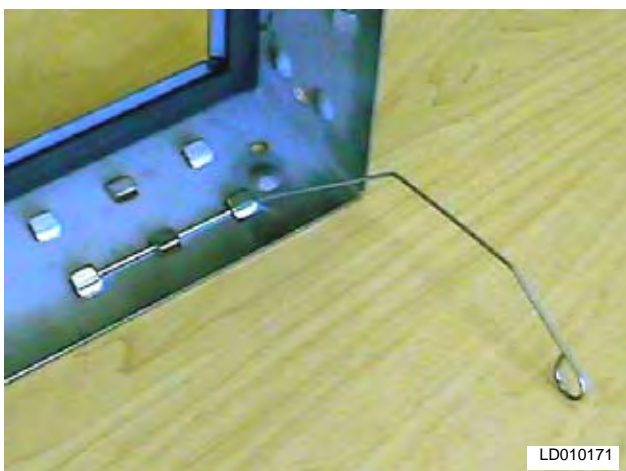

FIG. 4-21 – CORRECTLY INSTALLED LATCH P/N 315-004-003.
1. Insert the straight end of the latch between the two (2) knockouts furthest from the corner.
3. The latch installation should now be complete. The latch should now be "trapped" within the three (3) knockouts, but should be able to freely rotate (see Fig. 4-21).
2. Using a moderate amount of pressure, force the latch over the third knockout (*See Fig. 4-21*).